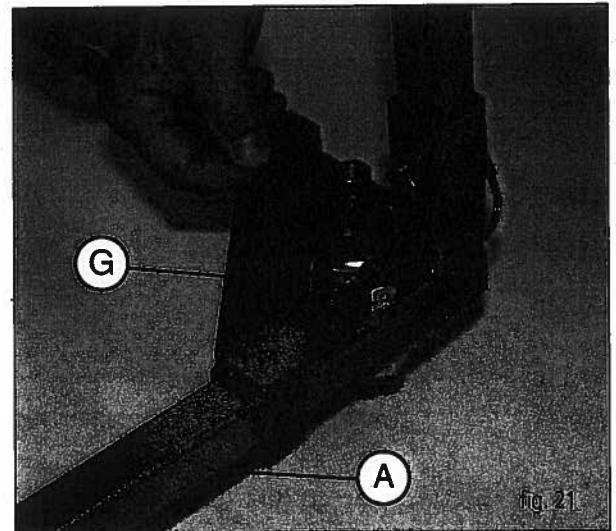

fig. 21
STEP 5: Tighten Bottom Set Screws (fig. 21).